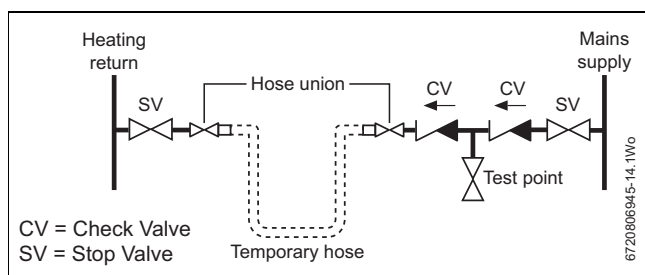

Fig. 4 System fill
- The CH sealed system must be filled using a WRAS approved filling loop or comply with figure 4 for system fill.